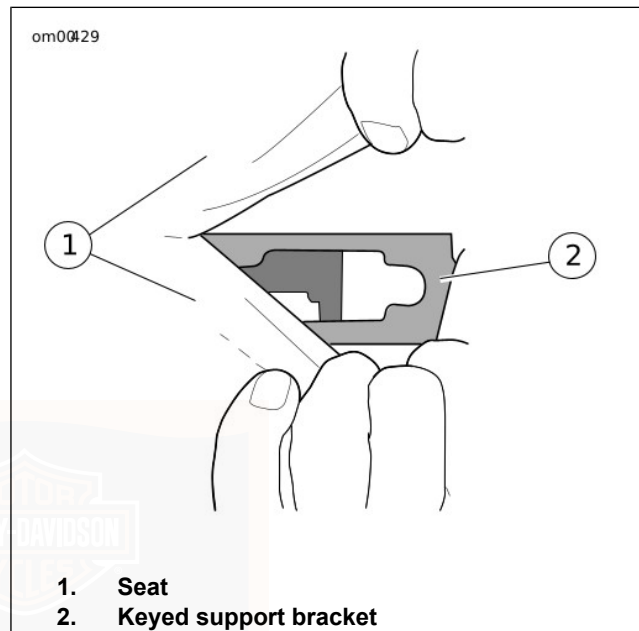

Figure 75. Rider Backrest Mounting Bracket: FLHTCUSE
3. See Figure 75. Insert the support arms into the keyed support bracket. Select one of three height adjustment holes.